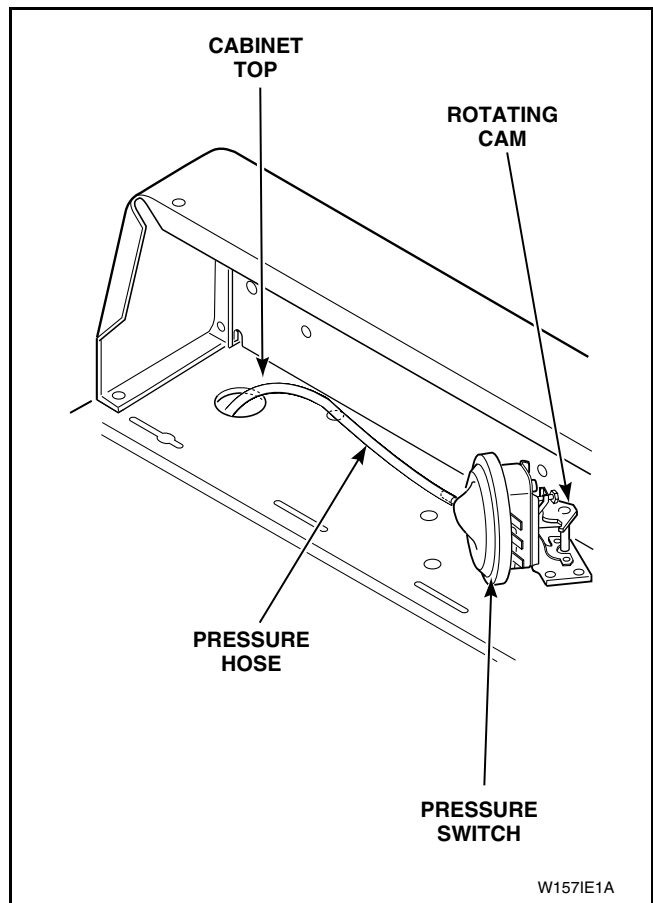

Figure 63
Refer to *Figure 63*
- c. Rotate the cam on the pressure switch **clockwise to lower** the water fill height, or **counterclockwise to raise** the height. Refer to *Figure 63*.